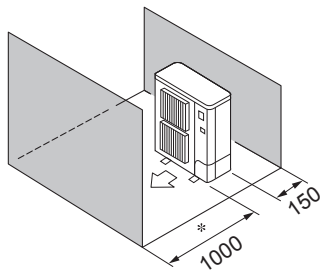

Fig. 2-7
- ⑤ Obstacles at front and rear only (Fig. 2-7)